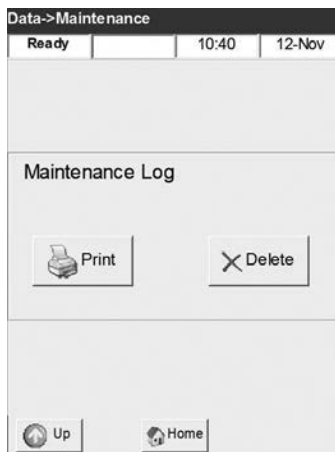

Fig. 7-56 Maintenance Log
- Press to print the maintenance log (Fig. 7-56).